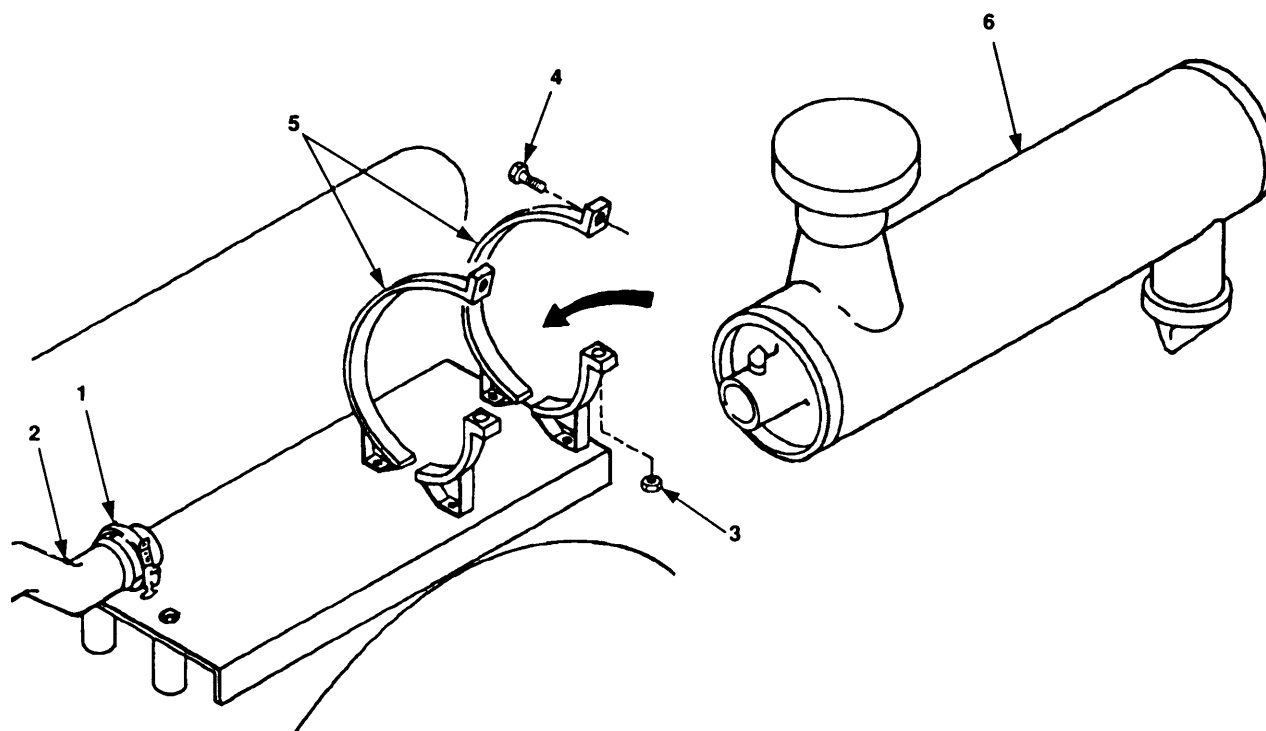

Figure 4-8. Air Cleaner and Installation.
- a. Loosen clamp (figure 4-8, 1) from manifold and remove hose (2).
- b. Remove nuts (3) and screws (4) securing the clamps (5).
- c. Open the clamps (5) and remove air cleaner assembly (6).
- a. Install secondary filter (7) into air cleaner housing (2).
- b. Thread wing nut (6) on to shaft and tighten.
- c. Install primary filter (5) into air cleaner housing (2).
- d. Thread wing nut (4) on to shaft and tighten.
- e. Install cover (1) tighten wing nut (3).
- a. Open clamps (figure 4-8, 5) and position air cleaner assembly (6).
- b. Position clamps (5) around air cleaner assembly (6) and install screws (4) and nuts (3).
- c. Position hose (2) and clamp (1) on air cleaner assembly (6).
- d. Tighten clamp (1) to secure hose (2) to manifold.
- e. Tighten nuts (3) to secure air cleaner assembly (6).